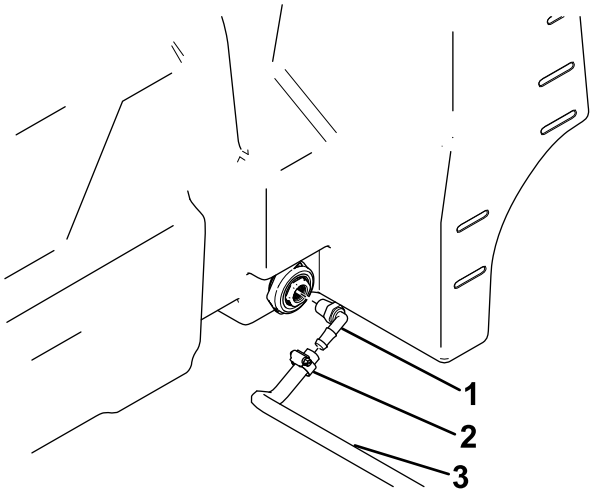

Figure 4
9. Attach a 90° hose fitting to the tank (Figure 4).
Note: Ensure that the 90° hose fitting is angled as shown in Figure 4.
10. Secure an end of the 2.4 m (96 inch) hose to the 90° hose fitting with a hose clamp (Figure 4).